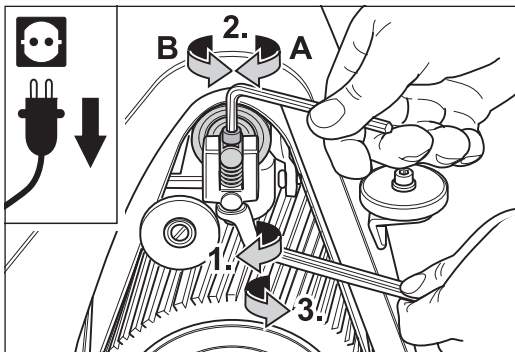

Fig. 42 Adjust the belt tracking at the setting screw of the drive unit (see description on the left).
- 6 If readjustment of the tensioning roller is necessary, release the lock nut at the drive unit (Fig. 42, 1.) and adjust the tensioning roller with the screw (Fig. 42, 2.):
- 7 If the belt tracking is seen to be correct after adjusting once, tighten the lock nut again (Fig. 42, 3.). If not, repeat the process.